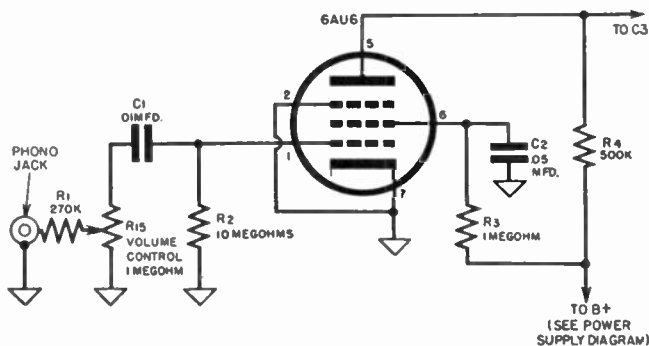

Fig. 5-8. The first A. F. circuit.
e) *First A.F. Circuit (Voltage Amplifier)*. See Figure 5-8.